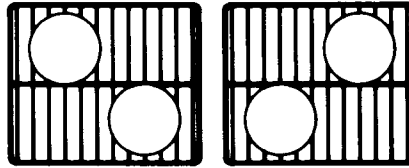

FIG. 14 PAN POSITIONING—TOP RACK (LEFT), BOTTOM RACK (RIGHT)
- Do not place pans in the oven directly over each other. Stagger the pans so that air flow will not be inhibited. See Figure 14.
When more than one utensil is used, be sure to stagger them allowing space between each one. See Figure 14. Don't allow the utensils to touch any part of the oven, especially the glass window. It is best to use 2 racks and place food so one utensil is not directly over another. Convection oven models have 3 racks.